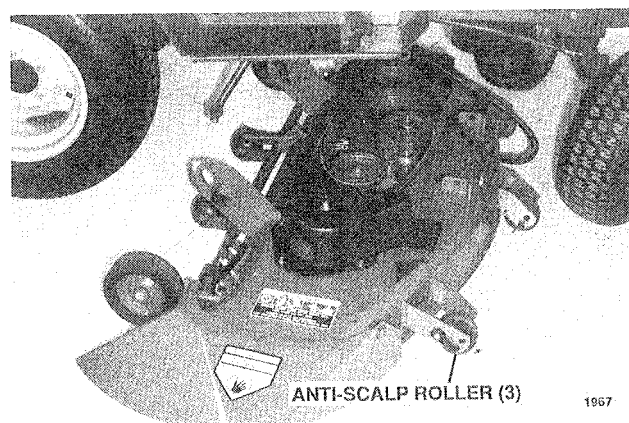

FIG. 2 Slide Mower Under Tractor.
Position mower on right side of tractor, turn front wheels all the way left (Fig. 2).
**Note:** To cut below 1 1/2" cut, move Anti-Scalp Rollers to top hole (Fig. 2).